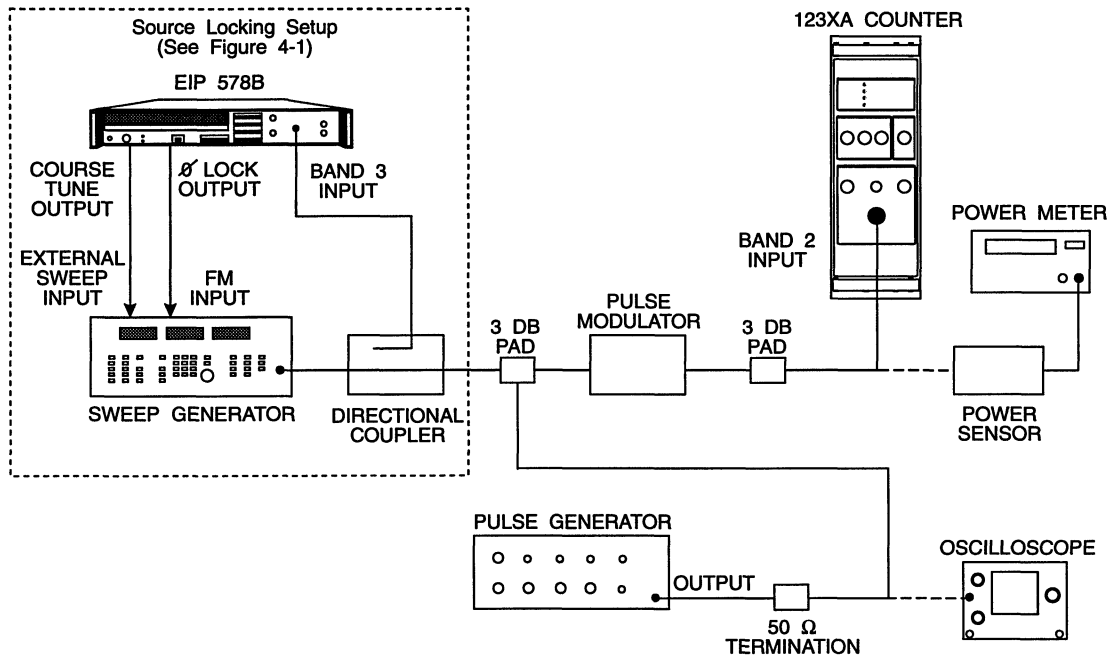

Figure 4-6. Band 2 Frequency Range and Sensitivity Test Setup (Pulse Mode).
1. Connect equipment as shown in Figure 4-6.